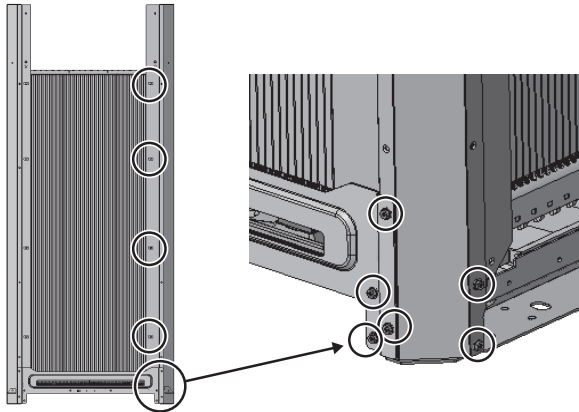
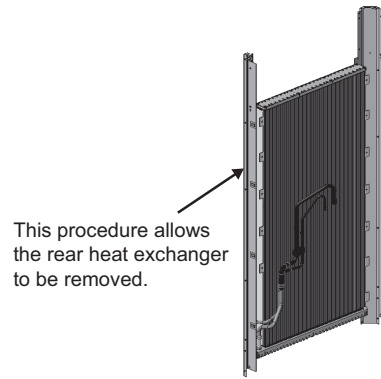

Fig. 26 Right
Fig. 27 Rear heat exchanger unit drawing
- (3) Remove the screws that secure the rear and right pillars. (10 screws: Fig. 26 and Fig. 27)